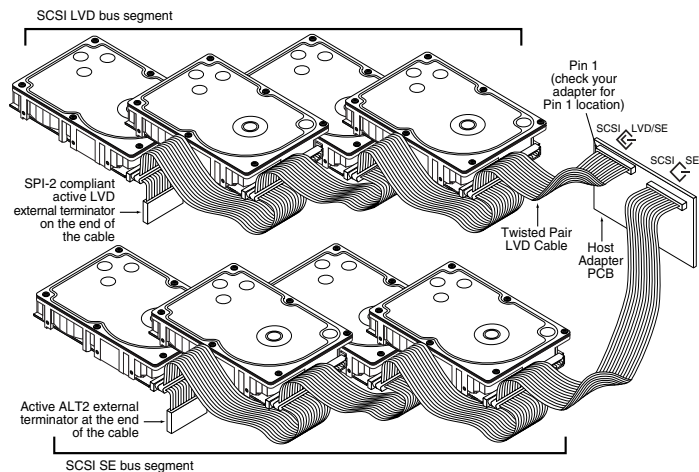

Figure 3. Cable connections and external termination
Note. Some LVD host adapters provide an LVD connector *and* an SE connector on the same host adapter to allow you to run SE and LVD drives concurrently at their maximum capabilities. Check your SCSI host adapter documentation. See Figure 3.
If you are installing the drive in a system that has other SCSI devices installed, terminate only the end devices on the SCSI bus (cable). This drive does not have internal terminators or any other way of adding internal termination on the drive. You must provide external termination when termination is required. This is normally done by adding an inline terminator on the end of the cable. See Figure 3 for an illustration showing a system configuration that uses an external terminator.
- Connect the DC power cable to the drive. See Figure 3.